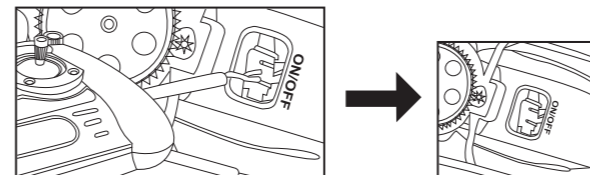

Fig. 4
- Turn off the power to the helicopter and turn the remote on. Insert the charging plug into the socket on the helicopter (Fig. 4).